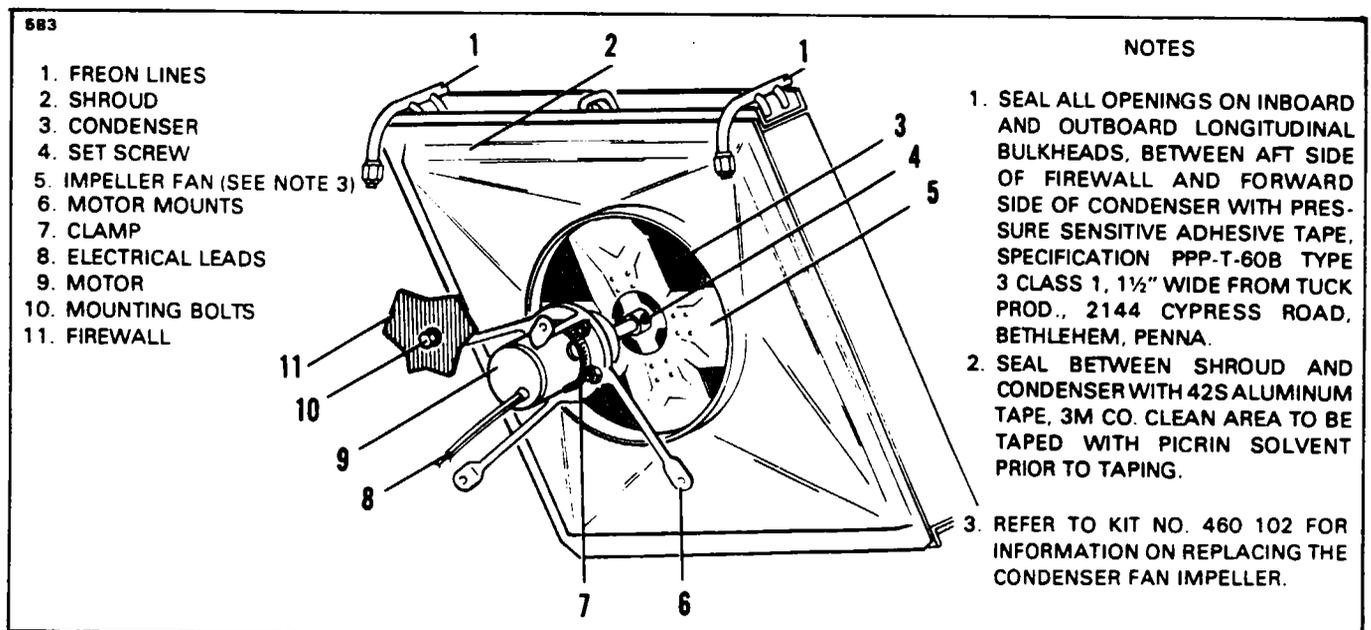

Figure 21-37. Fan and Condenser
**REMOVAL OF FAN AND CONDENSER.** (Refer to Figure 21-37.)
**INSTALLATION OF FAN AND CONDENSER.** (Refer to Figure 21-37.)